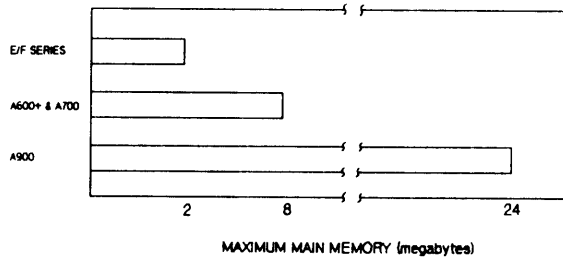

Figure 1-4. Relative Main Memory Capacities of HP 1000 Processors
main memory capacity. HP 1000 Systems can have up to 24 megabytes of main memory (Figure 1-4) to accommodate many resident real-time programs simultaneously.
**Program and Data Space Management.** Fastest dispatch and execution of real-time tasks is achieved with programs that are resident in main memory, because that avoids the millisecond-level delays involved in pulling programs from the disc. The improved responsiveness with resident programs that can be crucial to real-time applications is also greatly appreciated by multiple users during program development and other operations that involve access to the system. Most of the RTE systems support from 64 to 255 or more program partitions, working with the dynamic mapping system hardware and firmware that are built into HP 1000 Computers. The dynamic mapping system supports up to 2 megabytes of physical memory in HP 1000 E and F-Series computers and up to 24 megabytes in HP 1000 A900 computers (Figure 1-4).